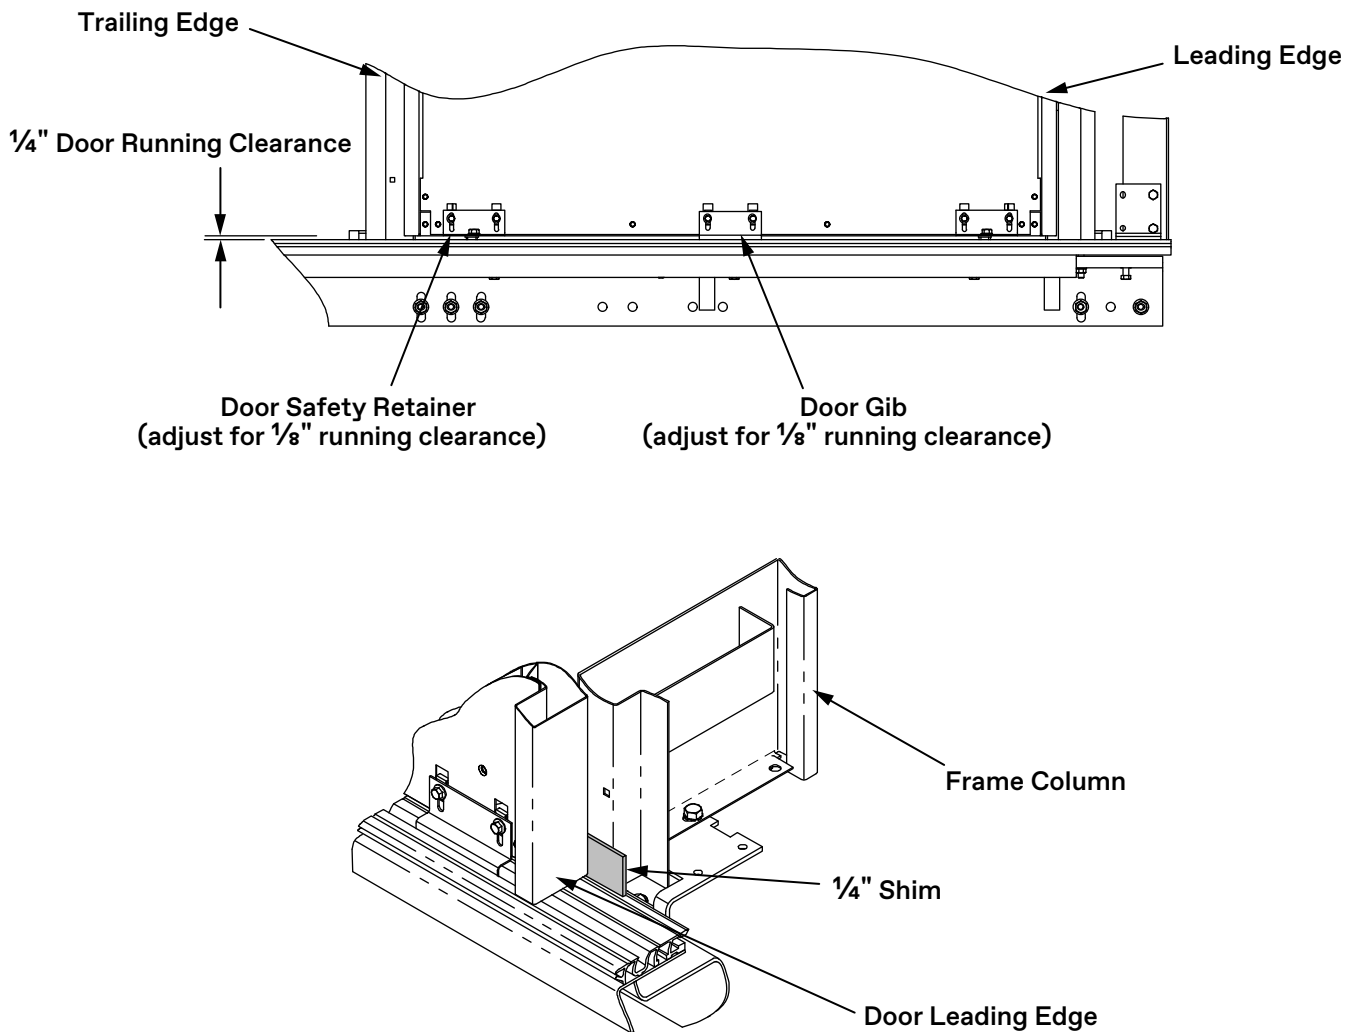

Figure 12 - Adjust Door Gibs
1. Adjust the door gib brackets and the door retainer brackets for a $\frac{1}{8}$ " running clearance between the brackets and the hoistway sill. Tighten the bolts after adjustment. See Figure 12.